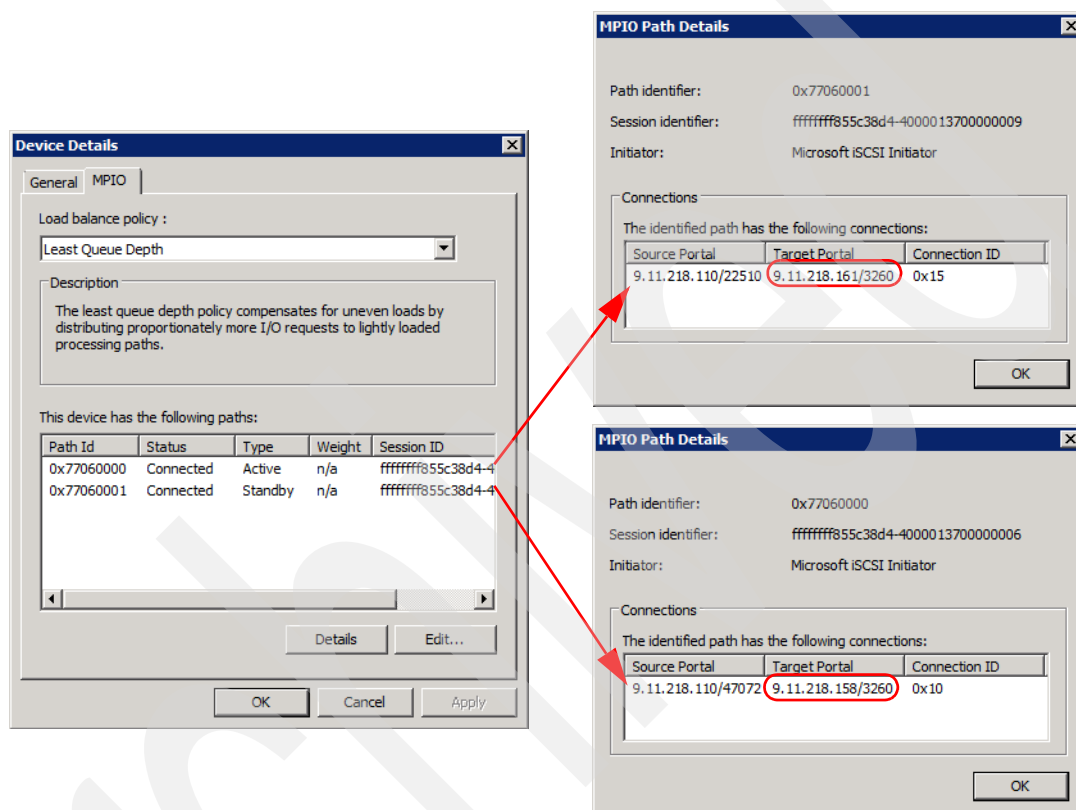

Figure 3-37 Viewing MPIO path details
18. Use the **Devices** tab in the Target Properties window now to see the detected LUNs. Select one device, click **Advanced**, and select the **MPIO** tab to view paths of the device, as in Figure 3-37. Confirm redundancy, making sure each device has a path to each controller.